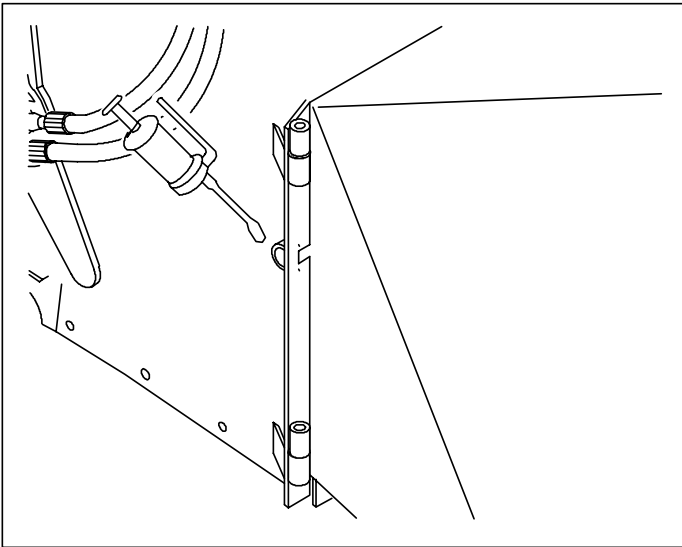

Fig. 15. Lubricating the feed roller bracket shaft
- Lubricate the roller bracket shaft after every 20 operating hours. See fig. 15.